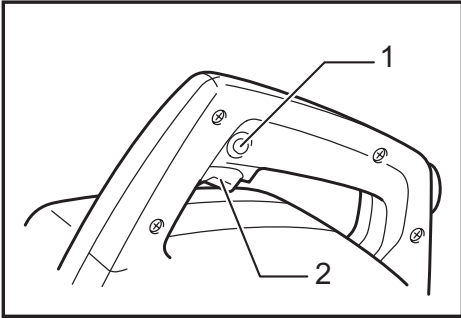

Fig.2
► Fig.2: 1. Lock button / Lock-off button 2. Switch trigger